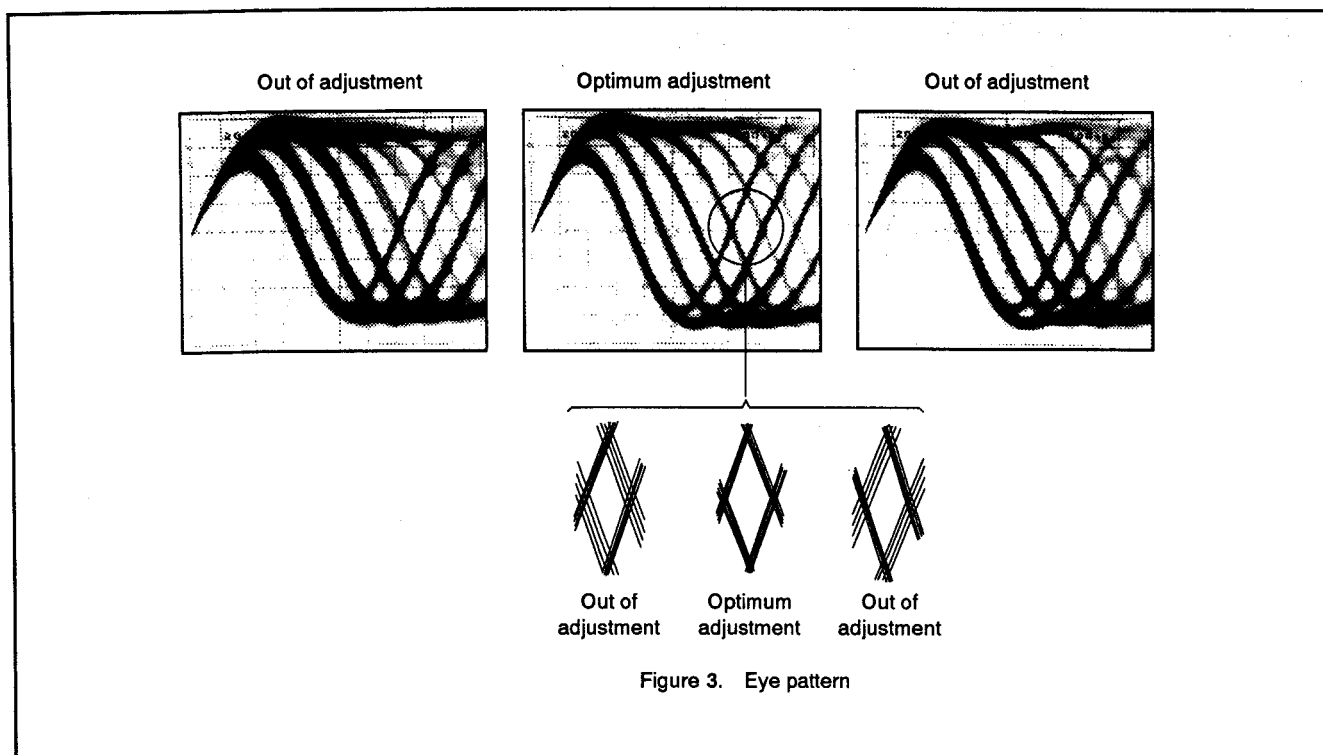

Figure 3. Eye pattern
3. First, adjust the radial tilt adjustment screw with the hexagonal wrench so that the eye pattern (the diamond shape at the center of the RF signal) can be seen the most clearly (Figure 3).
4. Next, adjust the tangential tilt adjustment screw with the hexagonal wrench so that the eye pattern (the diamond shape at the center of the RF signal) can be seen the most clearly (Figure 3).